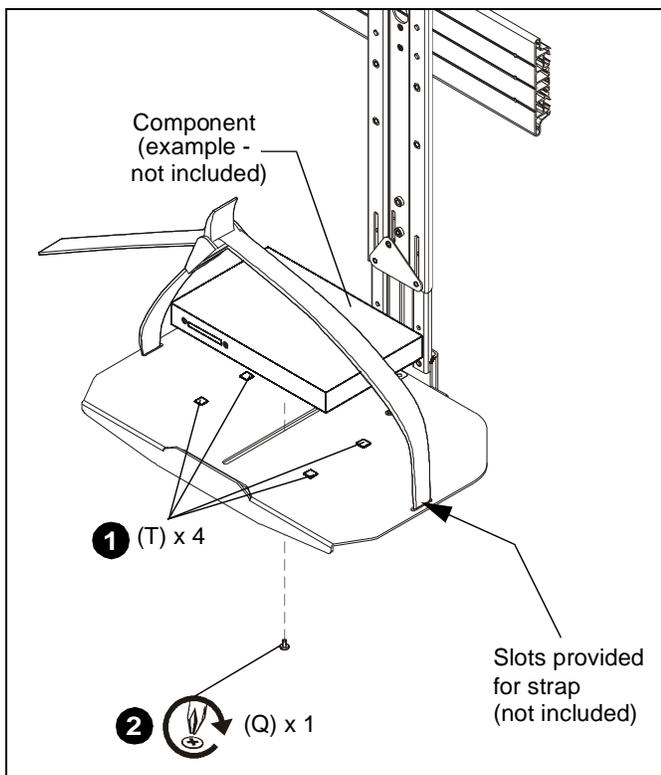

Figure 14
**WARNING:** Components must be secured to FCA802 shelf using either adhesive hook and loop squares (T) or screw (Q)! Failure to securely components to shelf may result in serious personal injury or damage to equipment!
**NOTE: OPTIONAL:** Slots are provided in shelf for strap (not included) to hold components in place. (See Figure 14)
2. (Single Screw option) Install 1/4-20 x 3/8" Phillips pan machine screw (Q) through mounting slot on shelf and into hole on bottom of component (if applicable). (See Figure 14)